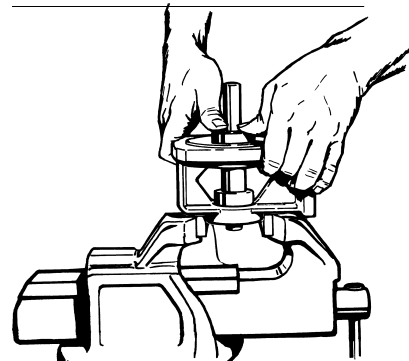

Figure 4-24
2. Place the pedestal, pump mounting surface up, in a vise or suitable fixture and insert the bearing assembly. It should be possible to install the shaft assembly with firm thumb pressure. Refer to Figure 4-24. If more force is required, the butt end of a hammer handle or plastic mallet may be helpful. The shaft assembly should never be forced or driven in.